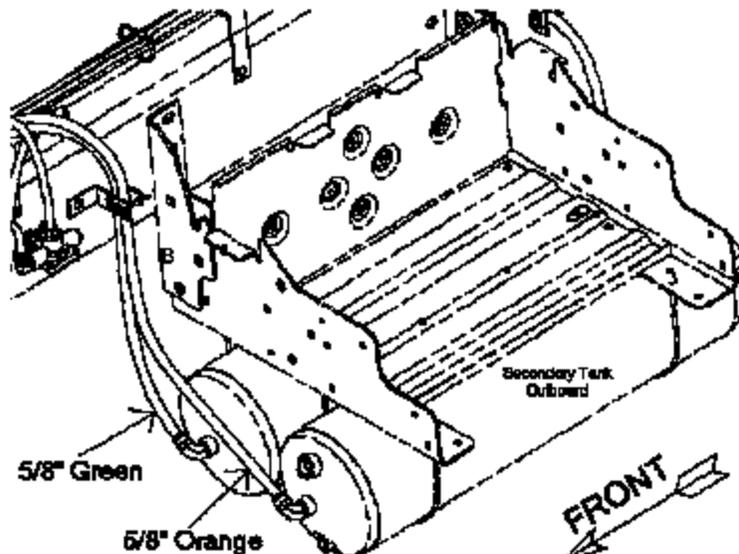

Figure 1
1. Verify green and orange hoses are plumbed as indicated in Figure 1.
2. If tanks are plumbed according to Figure 1, then brake system is plumbed properly. **NO** hose replacement is required and the Recall is complete.
3. If tanks are *not* plumbed according to Figure 1 and are reversed, then continue on to **Hose Replacement Procedure**.
3. Disconnect 5/8" green tubing from outboard (secondary) air tank and connect to inboard (primary) air tank. Trim hose as necessary and ensure the hose is clean at the new sealing area and is not kinked when installed. See Figure 1.
8. Connect to secondary or outboard air tank. See Figure 1.